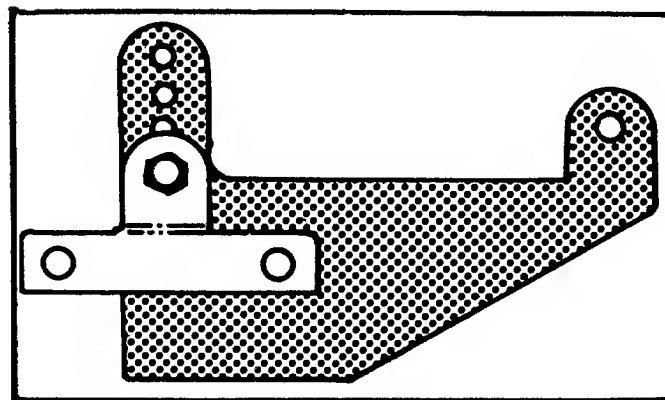

FIGURE 15. REAR WHEEL ADJUSTMENT
2. The height adjustment on the rear wheels is made by removing the bolt on the height adjustment on each side of the rear axle and selecting one of the four positions. See figure 15.